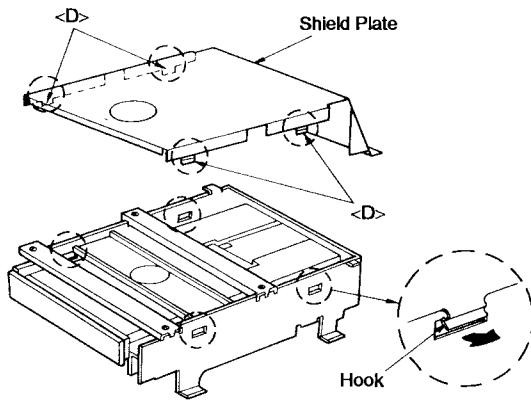

Figure 4
(4) Unhook four hooks <D> as shown in Figure 4.
(5) Raise the CD-ROM Drive shield plate.